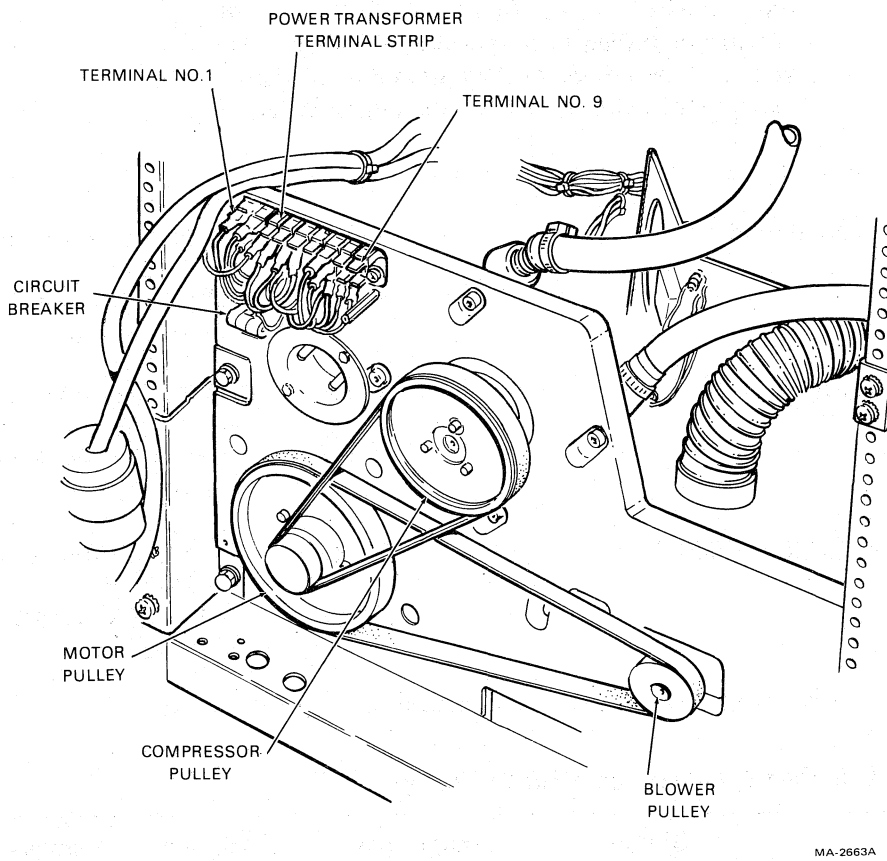

Figure 3-8 Rear of Power Pack with Pulley Cover Removed
4. Remove the cover from the power transformer terminal strip (Figure 3-8). (The ac input plug on power pack must also be removed.) Check that the blue, brown, and white/red wires are connected to the lower terminals (Table 3-1). The terminals are numbered 1 through 9, from left to right. Replace the cover and connect the power pack connector.
6. Remove the pulley cover from the rear of the transport power pack (Figure 3-8). Spin the ac motor pulley by hand, and check that the blower and compressor belts are tight and track properly.